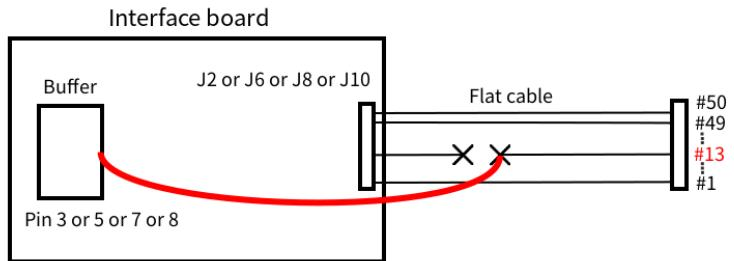

Figure 1.16: How to connect the #13 wire to the buffer.
8. Connect wire number 50 of the flat cable (it is white in our case) to any ground pin on the interface board. You have to connect the “ASU end” of the wire to ground in a similar way as shown in Figure 1.16 for the case of cable 13.
9. Connect wire number 49 of the flat cable (it is blue in our case) to the DVD pin on the interface board. The DVD pin is located near the M9 chip that you just desoldered. You have to connect the “ASU end” of the wire to the DVD pin in a similar way as shown in Figure 1.16 for the case of cable 13.